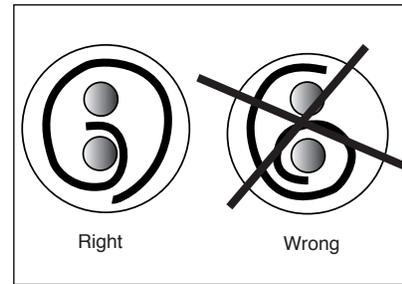

Figure 9
- In case of 2 cables, wrap the TDUX duct seal around the cables as shown, starting with the largest cable. (Figure 9)